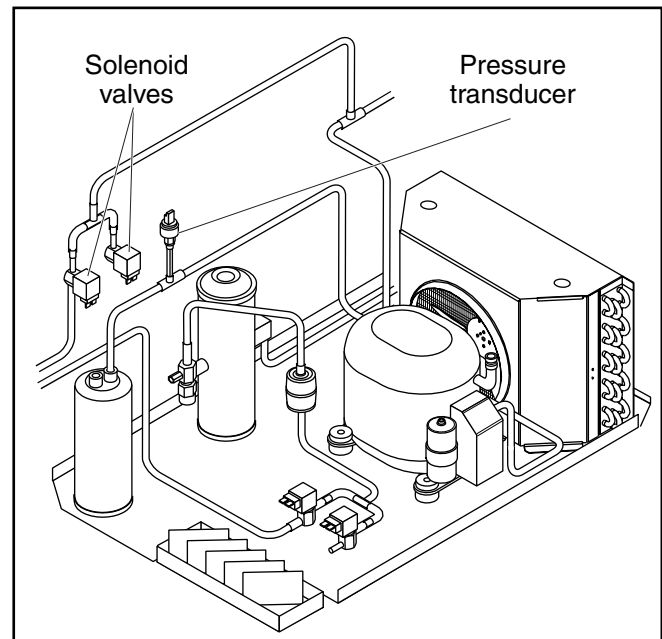

Figure 13. Solenoid Valves and Pressure Transducer
3. Tag and disconnect the wiring harness at the solenoid valve (Figure 13).
3. Tag and disconnect the wiring harness from the pressure transducer (Figure 13).